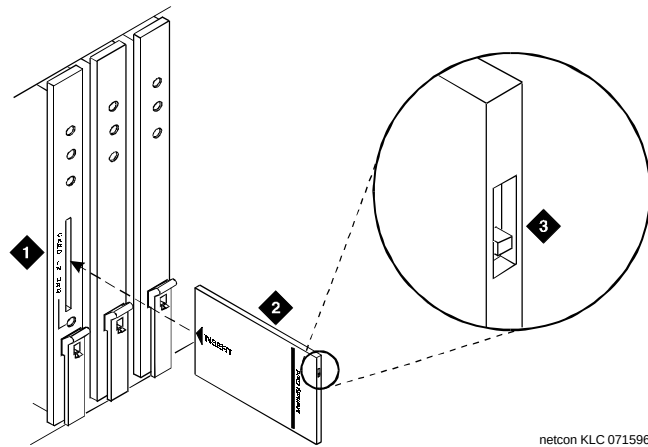

Figure 12-80. Record Switch on DEFINITY Memory Card
2. Verify that the switch on the outside edge of the memory card is in the downward position to record (see Figure 12-80).